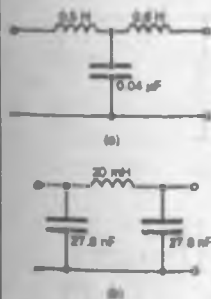

Figure 17.11
- Determine the cut-off frequency and the nominal impedance of each of the low-pass filter sections shown in Figure 17.11.